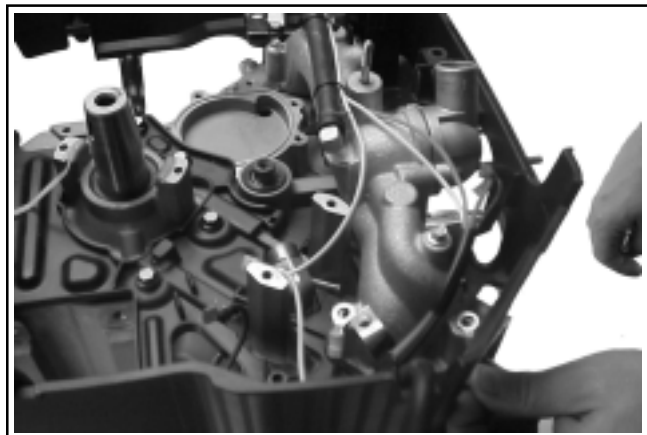

Figure 11-52. Wiring Harness (Top) Routing with Hose in Place on Fitting.
2. Route the wiring harness as shown in Figure 11-52, and out through the openings in the blower housing. See Figure 11-53. Attach the clip encasing the wiring harness and the shorter ground lead to the #1 side, short screw location, closest to the crankshaft. Attach the remaining longer ground lead with the short screw furthest from the crankshaft. Orient the parts as shown in Figure 11-54 while tightening. Torque the six intake manifold mounting screws in two stages; initially to **7.4 N·m (66 in. lb.)** then to **9.9 N·m (88 in. lb.)** in the sequence shown in Figure 11-55.